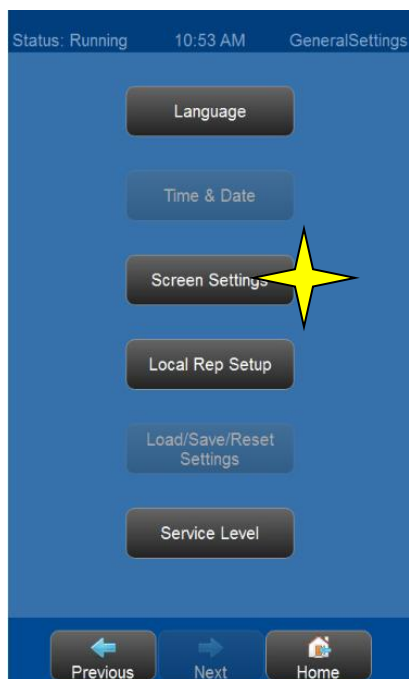

Figure G-1:
- 3) Next, press <SCREEN SETTINGS> to access the “SCREEN SETTINGS” menu [Figure G-1].